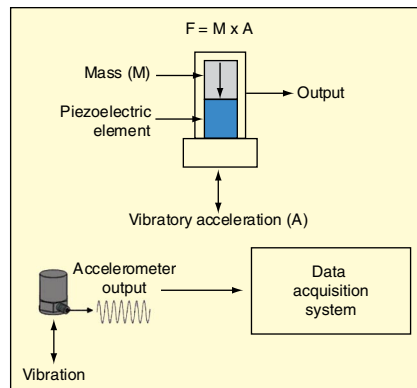

Figure 1. How accelerometers work.
**Sensor Selection.** Typical vibration applications use IEPE (Integrated Electronics Piezo Electric) accelerometers to measure vibration. An accelerometer consists of a piezoelectric element in series with a known mass (see Figure 1). When the accelerometer is mounted to a vibrating surface, the mass applies force to the piezoelectric element, generating an electrical charge that is proportional to the acceleration of the applied vibration.